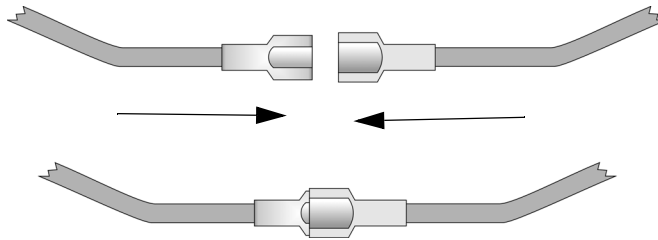

Figure 4-6 Splicing Control panel Battery Cable to RBB Battery Cable Extenders
2. Connect the main control panel battery cables to the battery cable extenders as shown in Figure 4-6.